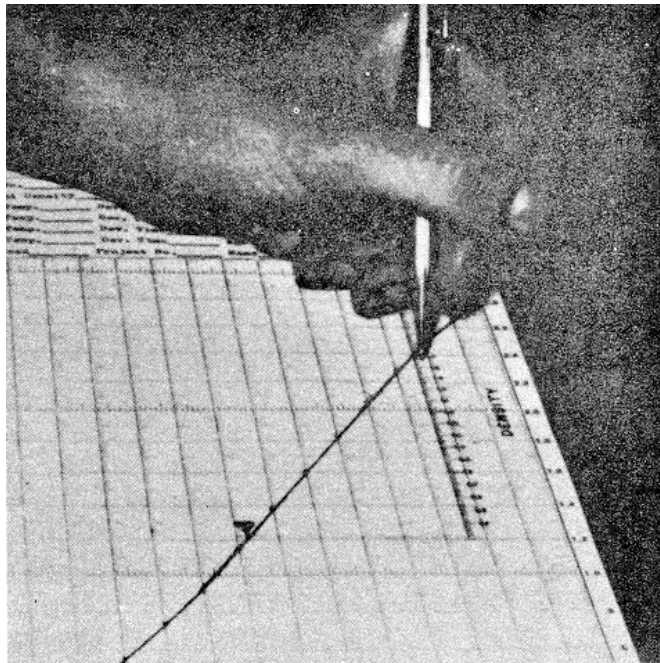

Figure 42.
(2) Insure that the vertical scale of the gammeter (figure 42) also crosses the curve along the STRAIGHT LINE portion.